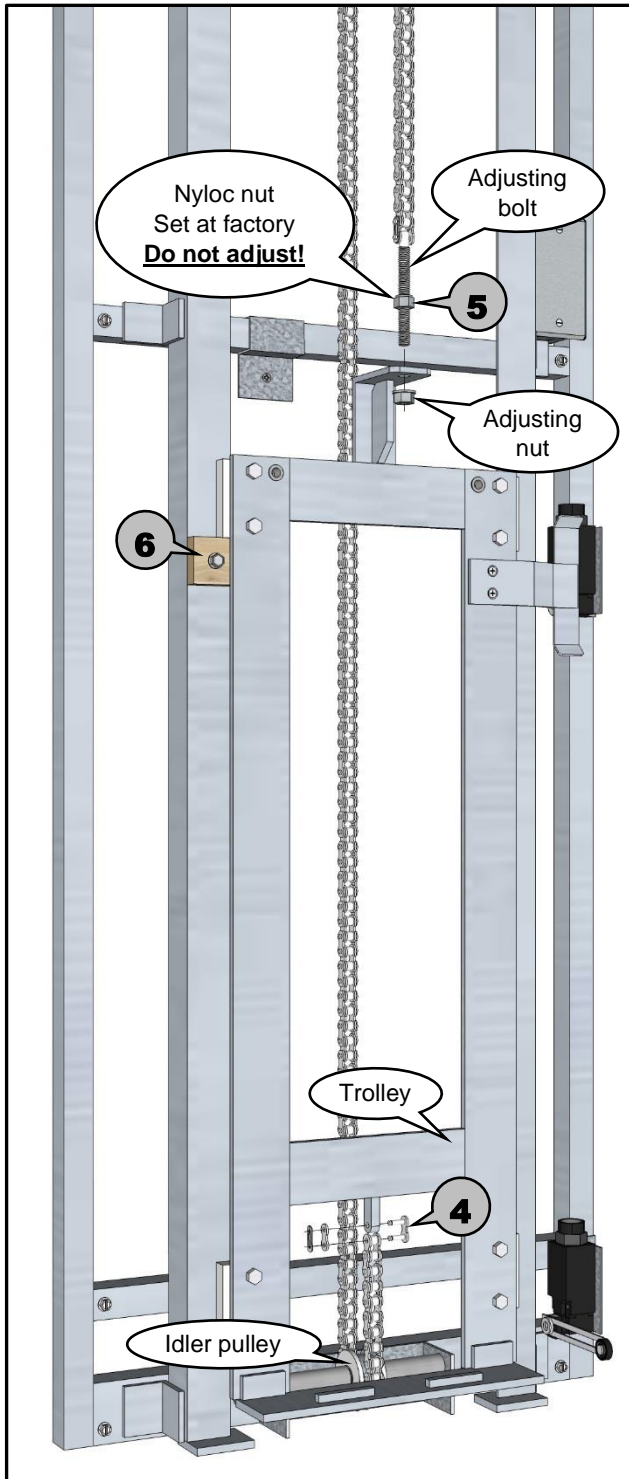

Figure 9
- 4 One end of the chain should hang down behind the trolley and be placed around the idler pulley. Then use provided master link, attached near the bottom of the trolley with a plastic tie, to connect chain to bottom end of trolley. (see Figure 9)
- 5 The other end of the chain with the adjusting bolt should hang down near the top of the trolley. Insert the threaded adjusting bolt, on the end of the chain, into the hole on the top of the trolley where the adjusting nut is tied on, and use the adjusting nut to secure the adjusting bolt to the trolley. Use a blade screwdriver or needle nose pliers to hold chain from twisting and tighten adjusting nut until Nyloc nut is tightly seated against trolley. **Do not adjust Nyloc!** (see Figure 9)
- 6 Some machines will have a trolley stop screwed to the track for shipping purposes, and it should be removed at this time. (see Figure 9)